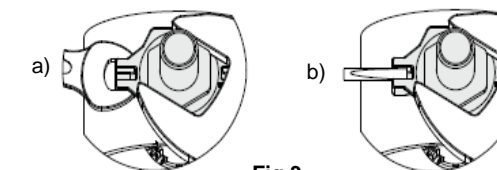

Fig.3
- Tighten with a wrench or other tool so that the bottom support does not rotate, see fig.3.